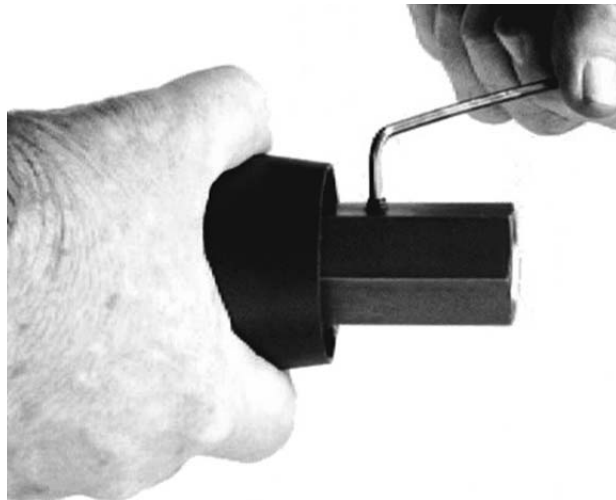

Figure 8-9. Remove Set Screw.
1. Turn the End Cap (16) so the Cone Point Set Screw (19) is accessible and secure the End Cap horizontally in a vise.
2. Remove the Cone Point Set Screw (19) as shown in Figure 8-9.